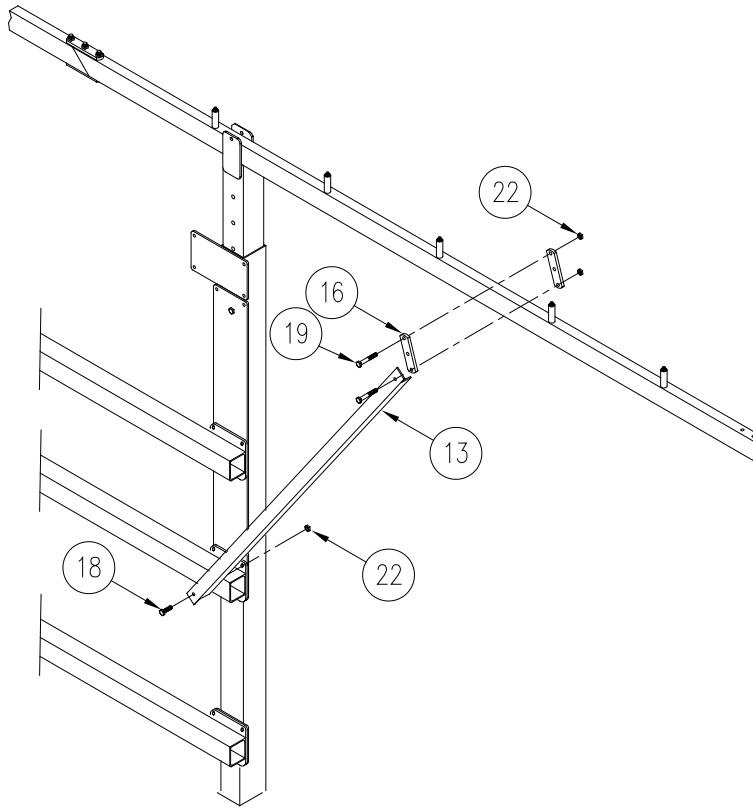

Figure 2-4.
4. Refer to **Figure 2-4**. Attach the canopy braces (13) at the bow end of the lift. Ensure the stringers are level and at the desired position before tightening the bolts. Note that the braces are supplied only with 21 foot and longer canopies. For 26 foot and longer canopies, an additional pair of braces is supplied. Install the longer braces on the canopy end with the greatest overhang, which is usually the bow end of lift.